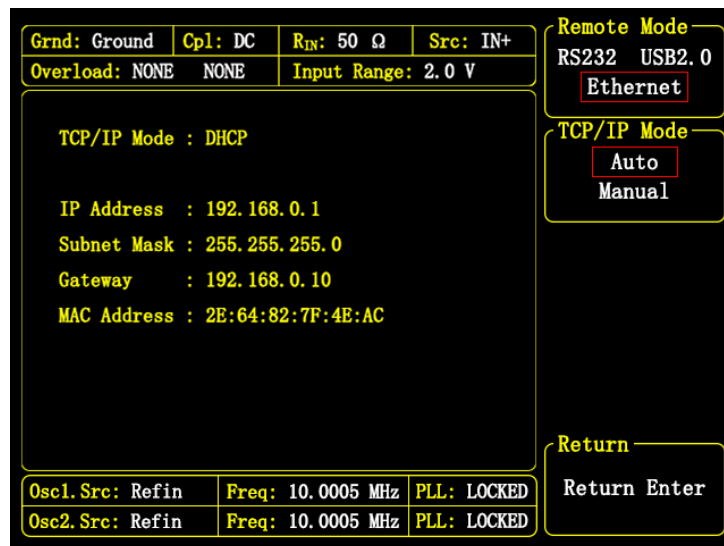

Figure 71. <Remote> submenu—<Ethernet> option
- <Ethernet>: 1000Mbps Ethernet interface. The port number is 10001. For example, if the network IP address obtained by the OE2041 is 192.168.1.10, then the IP address used by the computer to connect to the OE2041 is 192.168.1.10:10001. The configuration interface is shown in Figure 71.